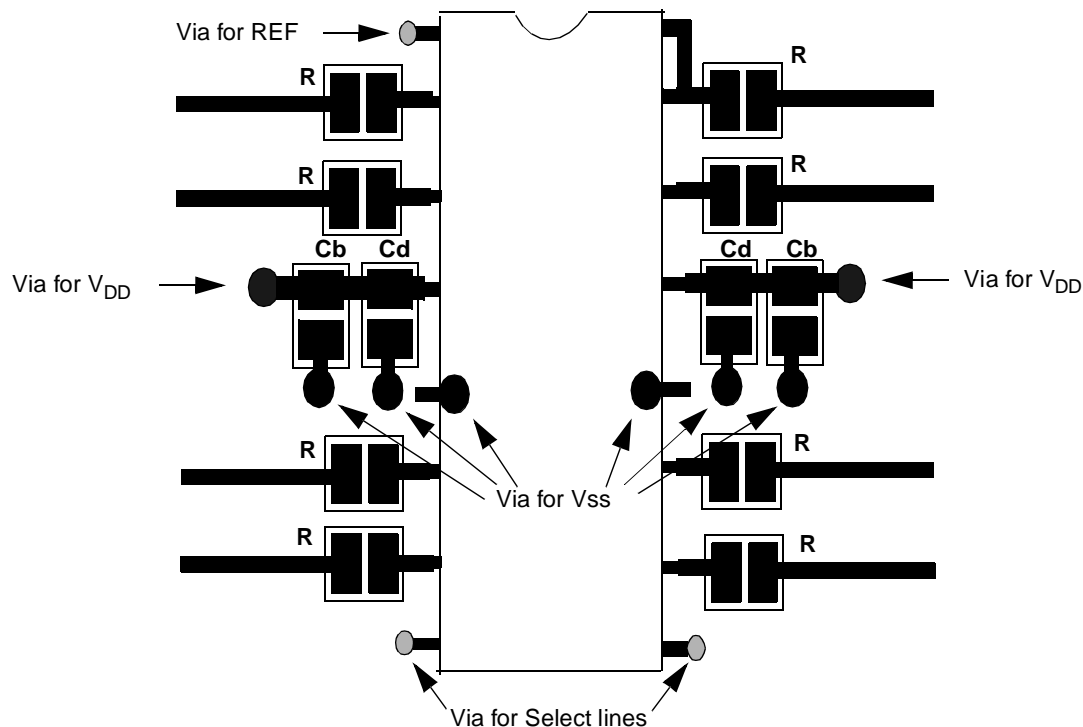

Figure 18. Layout Recommendations for the CY2308
2. Use as many Vias as possible to ensure both solid V_{DD} and V_{SS} layers on the component level. It is recommended that larger Vias be used on V_{DD} and V_{SS} pins. It is also suggested to use individual Vias to V_{SS} on all decoupling capacitors, bypass capacitors and V_{SS} pins, as shown in Figure 18. Use of good quality surface mount capacitors is recommended.